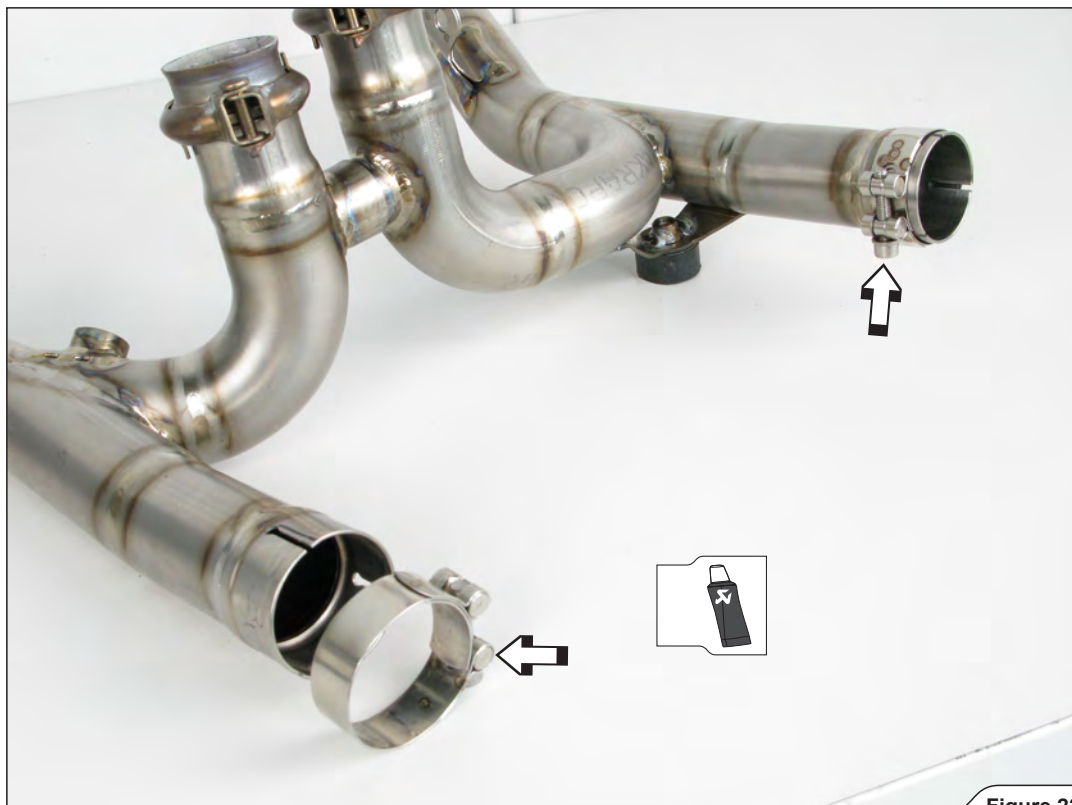

Figure 22
2. **For OPEN SLIP-ON only:** coat the bolts and interior of the metal clamps with Akrapovič antseize lead-free copper paste (black tube) and corectly install them onto the Akrapovič collector (**Figure 22**).